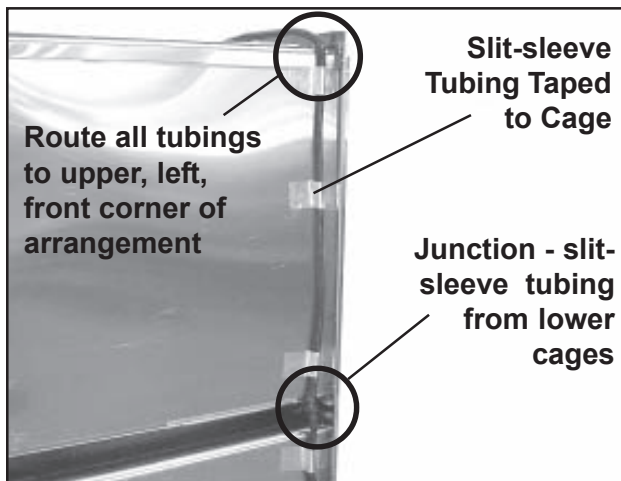
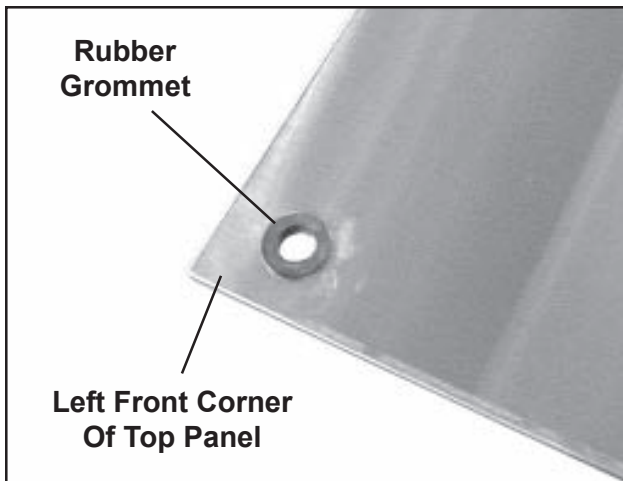

Figure 6. Tubing on Cage Side
Figure 7. Rubber Grommet in Top Panel
Note: Route all cage tubings to the upper, left, front corner of the arrangement (Figure 6). In *Step 11*, they will be passed through an opening in the top panel (Figure 7) to the heat controller housing.
4. Where two slit-sleeve tubings meet (Figure 6), remove the wires from one tubing, insert them into the other tubing, and cut away the empty portion of the first tubing. With electrical tape, tape the junction completely so that no wires are visible.
10. Insert the rubber grommet provided into the hole in the left front corner of the top panel (Figure 7).